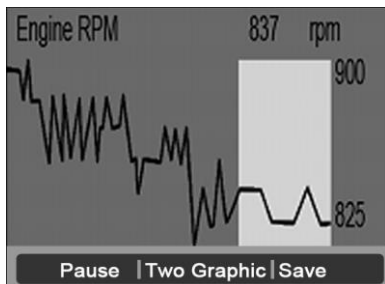

Figure 5.29
- 3) Press the **FUNCTION** button corresponding to **One Graphic**. The screen will show the live data waveform as Figure 5.29.